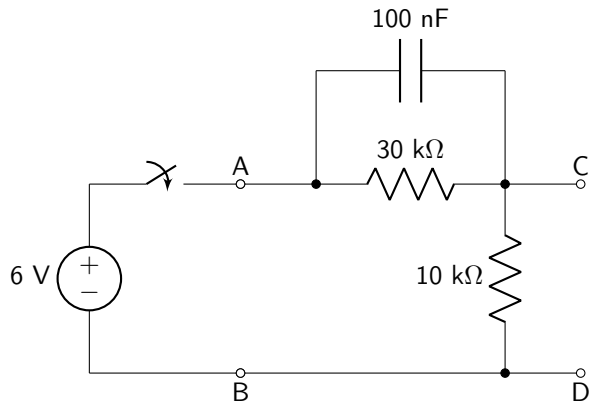

Figure 8.7: One of the mystery RC circuits from Circuit 5.
3. The circuit shown in figure 8.7 corresponds to one of the mystery RC circuits from Circuit 5.